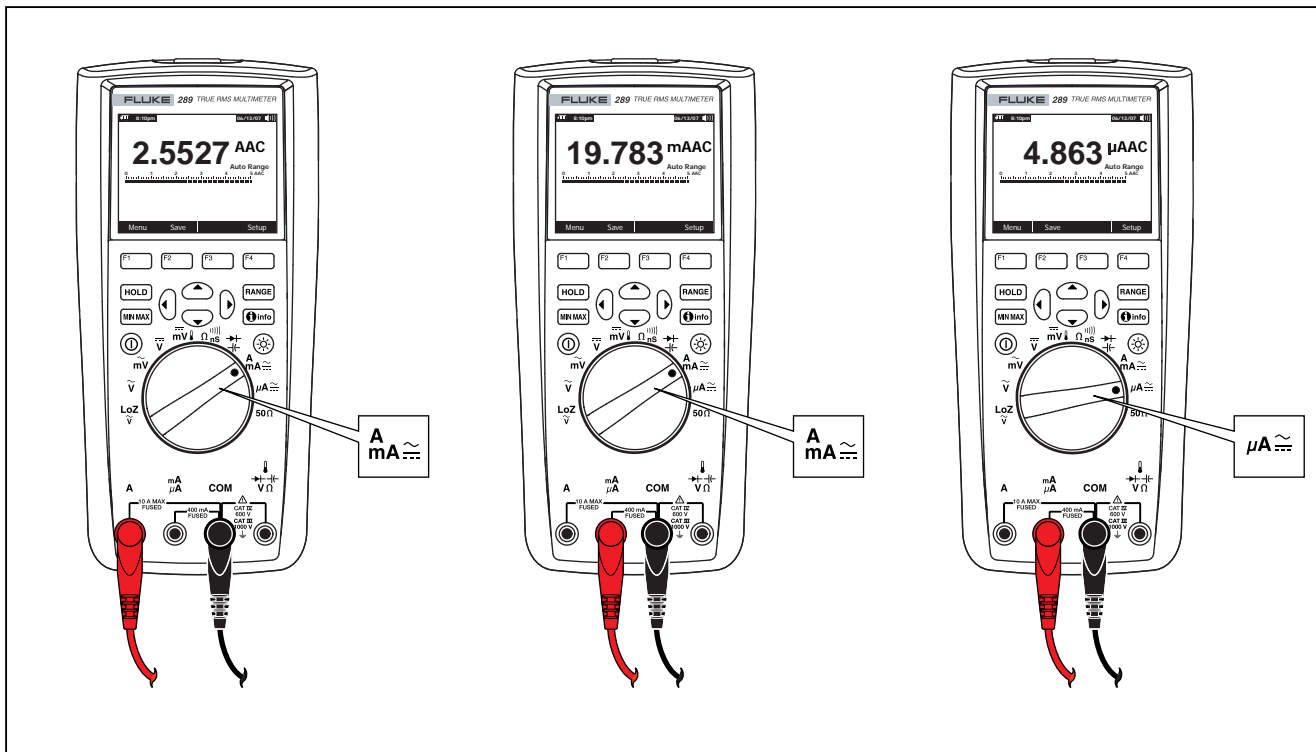

Figure 21. Current Measurement Setup
3. If you are using the **A** terminal, set the rotary switch to **A**. If you are using the mA/μA terminal, set the rotary switch to **μA** for currents below 5000 μA (5 mA), or **mA** for currents above 5000 μA. See Figure 21 for test lead connections and function selection. Refer to the "Input Alert Feature" section for information on the alerts the Meter uses when leads are not used correctly for current measurements.